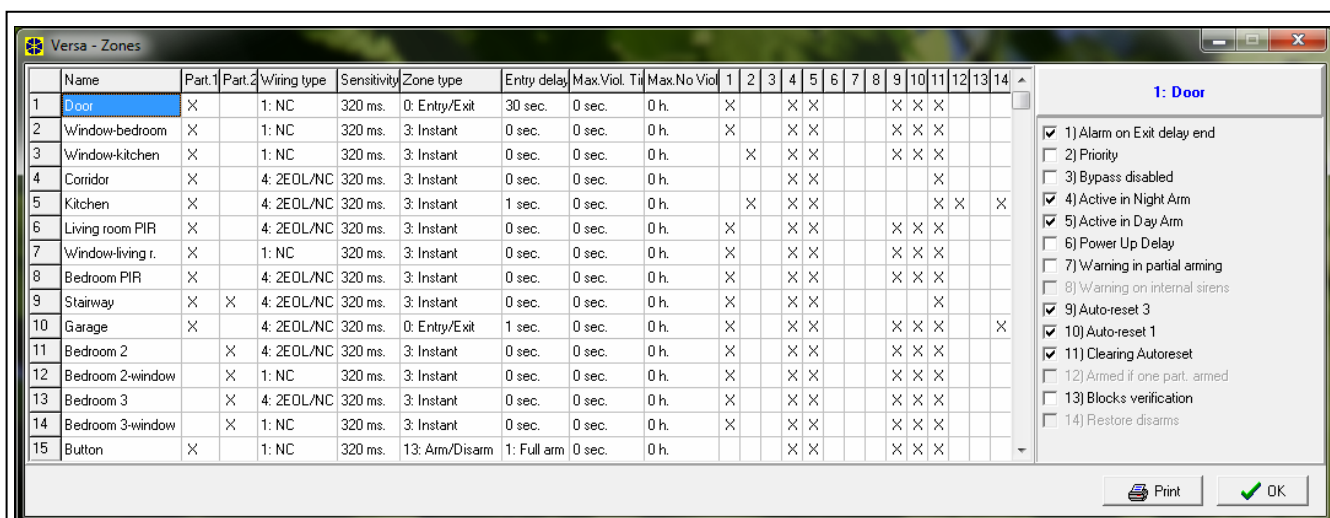

Fig. 8. DLOADX program: "Versa – Zones" window.
- "Versa – Zones" window (Fig. 8).